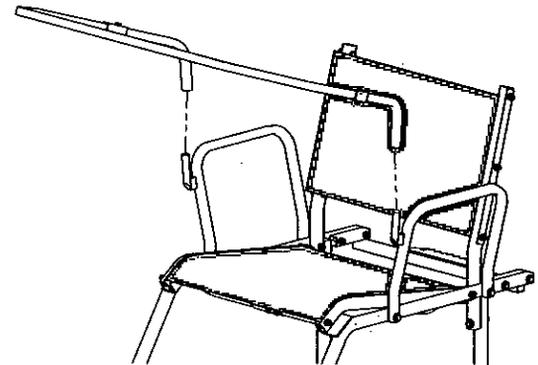
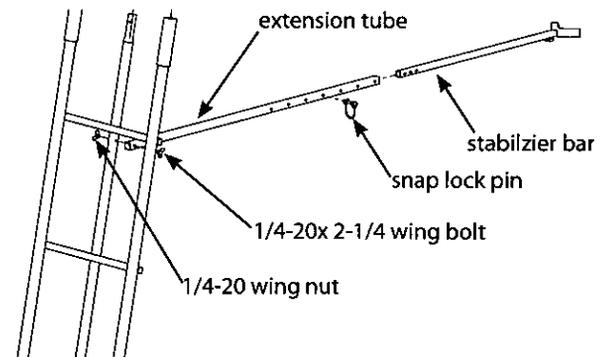

Figure 13
Figure 14
19. a. Attach the removable shooting rail by setting rail down over studs provided on armrests **SEE FIGURE 13.** Lubrication is recommended to prevent binding and noise.
b. Attach the (2) provided 9" and (1) provided 47" camo foam pads to the armrests and shooting rail by wrapping around tubing and attaching Velcro® together.
20. a. Attach the stabilizer bar extension tube (48053) to the second ladder section mounting hole using (1) provided 1/4-20 x 2-1/4" wing bolt and wing nut. **SEE FIGURE 14.**
b. Slide the stabilizer bar (48052) into the extension tube and attach the two pieces together using (1) provided spring lock pin. Spring lock pin must go through both the extension tube and stabilizer bar at appropriate hole to achieve desired distance from tree. Adjustment in length may be needed when ladder is uprighted later in instructions. **SEE FIGURE 14.**